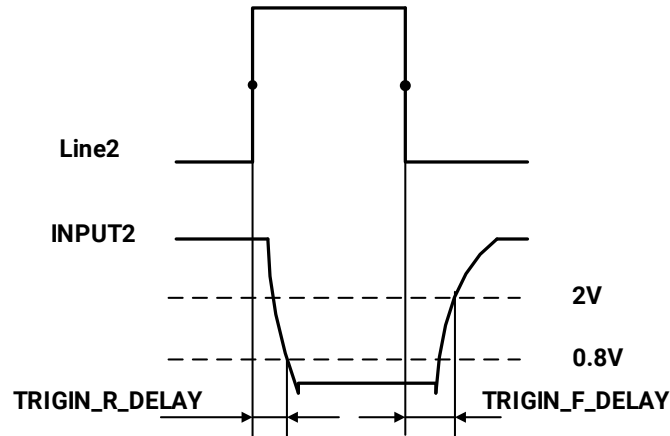

Figure 7-27 Parameter of Line2 input circuit
- Input rising time delay: $<2\mu\text{s}$ ($0^{\circ}\text{C}\sim 45^{\circ}\text{C}$), parameter description as shown in Figure 7-27
- Input falling time delay: $<2\mu\text{s}$ ($0^{\circ}\text{C}\sim 45^{\circ}\text{C}$), parameter description as shown in Figure 7-27